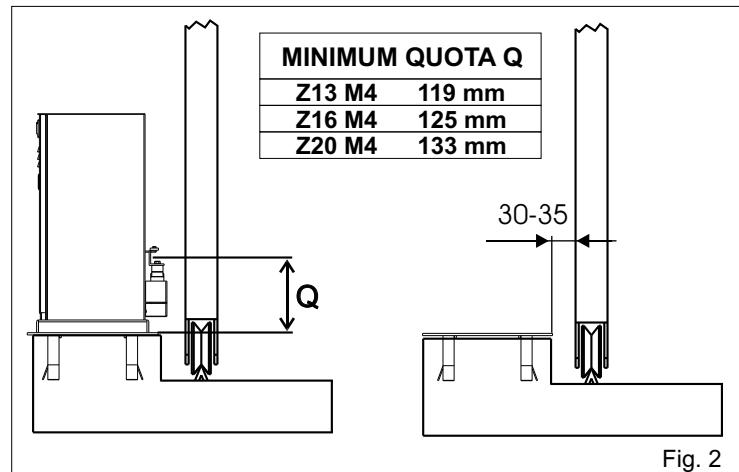
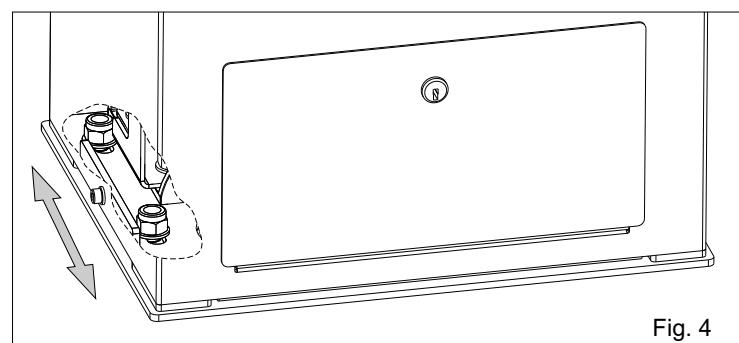

Fig. 2
Fig. 4
- 2.3. When concreting in the plate check that the plate is perfectly levelled and that the measurement of 30 - 35 mm given in Fig. 2 is followed.
- 4.1. Fix the motor-reducer to the foundation plate adjusting the side position (Fig. 4) considering the mentioned measurements in Fig. 2.